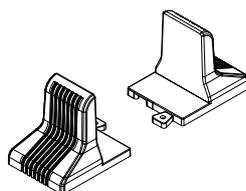

Figure 2-3 Installing the support base
3. Take out the support bases from the accessories, assemble a pair of support bases through fastenings, as shown in Figure 2-3, and put them onto the flat installation table.